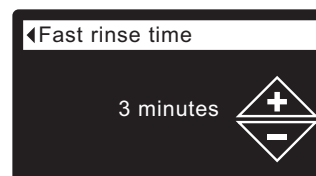

FIG. 79
- 8d. **Fast rinse time:** Press the UP (▲) or DOWN (▼) buttons to change the fast rinse time. Hold the button down to rapidly advance. The fast rinse time can be set from 1 to 30 minutes* (See Figure 79).